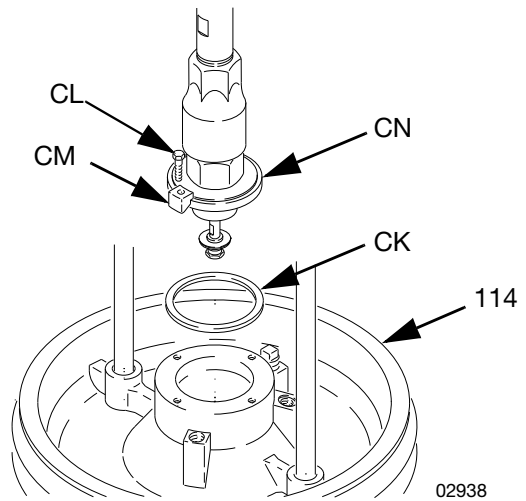

FIG. 9
3. Attach the motor to the mounting brackets (57) or mounting plate (CA) with the fasteners supplied (‡), as applicable.
4. Place the gasket (CK) from Mounting Kit 222776 on the ram plate (114). See FIG. 9. Loosen the mounting bracket setscrews (43), and carefully lower the pump onto the gasket and plate. Secure the pump's intake flange (CN) to the plate with the screws (CL) and lugs (CM) included in the mounting kit.